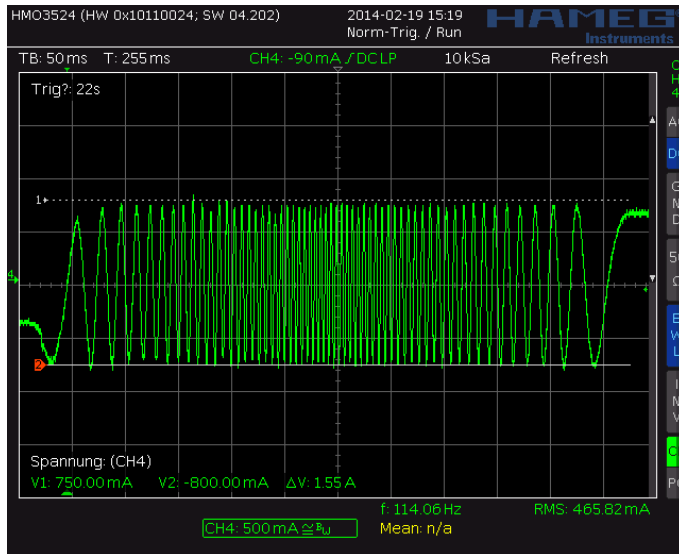
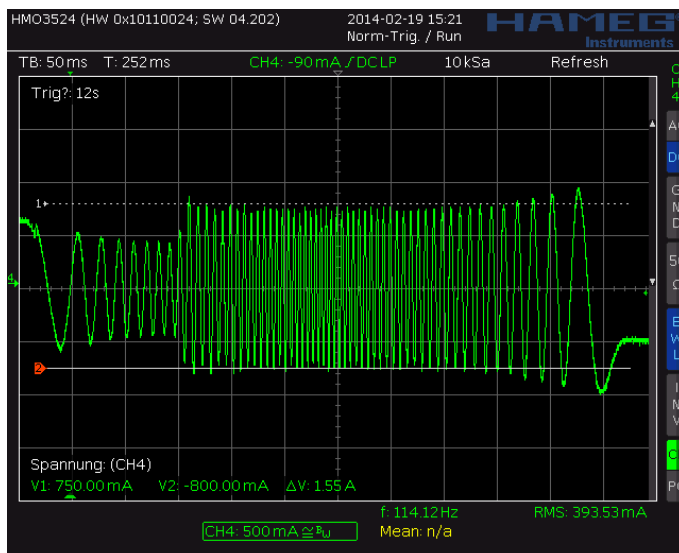
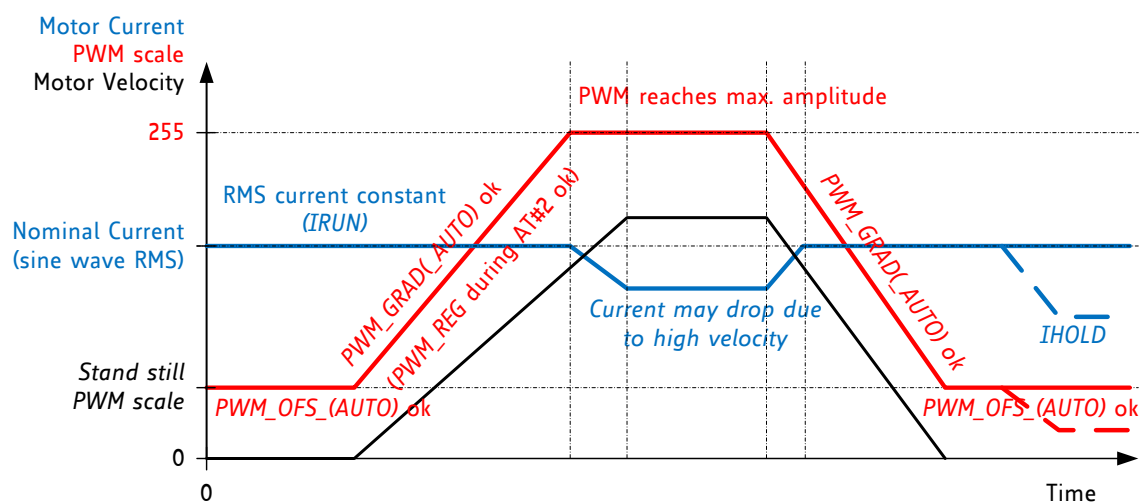

Figure 6.3 Scope shot: good setting for PWM_REG
Figure 6.4 Scope shot: too small setting for PWM_REG during AT#2
Figure 6.5 Successfully determined PWM_GRAD(AUTO) and PWM_OFS(AUTO)
In StealthChop voltage PWM mode, the autoscaling function (*pwm_autoscale* = 1, *pwm_auto_grad* = 1) regulates the motor current to the desired current setting. Automatic scaling is used as part of the automatic tuning process (AT), and for subsequent tracking of changes within the motor parameters. The driver measures the motor current during the chopper on time and uses a proportional regulator to regulate *PWM_SCALE_AUTO* in order match the motor current to the target current. *PWM_REG* is the proportionality coefficient for this regulator. Basically, the proportionality coefficient should be as small as possible in order to get a stable and soft regulation behavior, but it must be large enough to allow the driver to quickly react to changes caused by variation of the motor target current (e.g. change of *VREF*). During initial tuning step AT#2, *PWM_REG* also compensates for the change of motor velocity. Therefore, a high acceleration during AT#2 will require a higher setting of *PWM_REG*. With careful selection of homing velocity and acceleration, a minimum setting of the regulation gradient often is sufficient (*PWM_REG*=1). *PWM_REG* setting should be optimized for the fastest required acceleration and deceleration ramp (compare Figure 6.3 and Figure 6.4). The quality of the setting *PWM_REG* in phase AT#2 and the finished automatic tuning procedure (or non-automatic settings for *PWM_OFS* and *PWM_GRAD*) can be examined when monitoring motor current during an acceleration phase Figure 6.5.